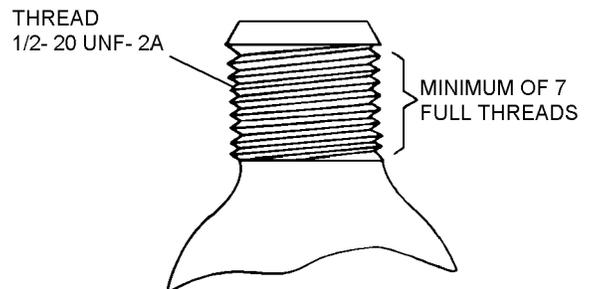

Figure 17-5. Cylinder Thread Count
4. To assure a firm cylinder seat, conduct a cylinder thread count. Threaded portion of cylinder neck shall contain a minimum of seven full threads to assure a firm cylinder seat within valve body. Any cylinder found with less than seven full threads shall be discarded. See figure 17-5.
7. Close inflation valve protective covers; then secure with hook and pile tape provided. See figure 17-5.